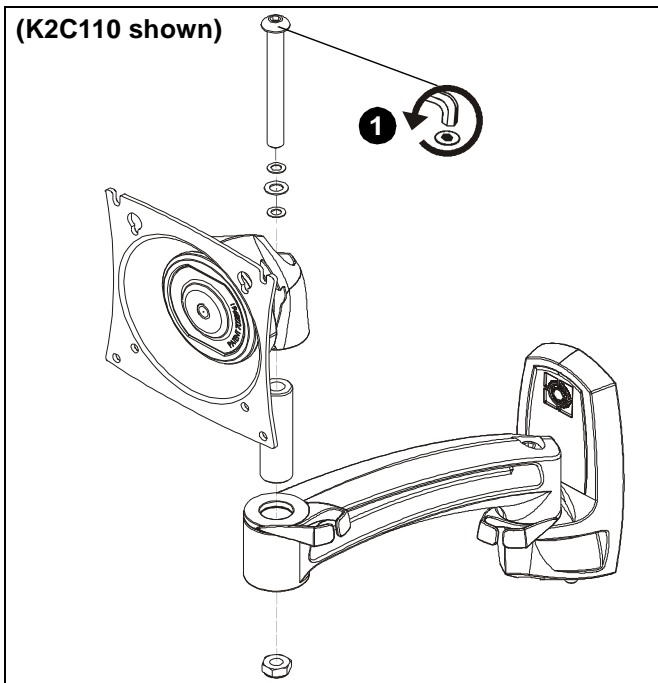

Figure 1
1. Remove button head cap screw, washer, pivot pin and lock nut to disassemble head from mounting arm. (See Figure 1)